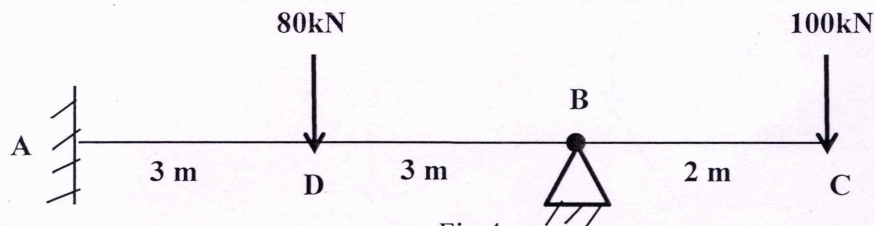

Fig.4
- 14 a) Analyse the propped cantilever beam shown in fig.4 using consistent deformation method (Choose the reaction at B as redundant). 10